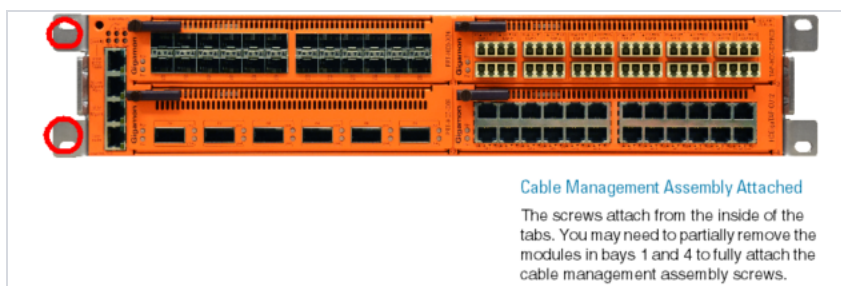

Figure 8: Cable Management Assembly Attached to Node
If you installed the custom rack ear for the cable management assembly in Step , you can now attach the assembly using the four screws provided. The screws attach through the recessed holes on the inside of the rack ear and into the cable management assembly, as shown in Figure 8: Cable Management Assembly Attached to Node on page 39.
4. As shown in Figure 8: Cable Management Assembly Attached to Node, the thumb screws on the cable management assembly’s front panel allow quick removal and reattachment whenever you want to route cables.